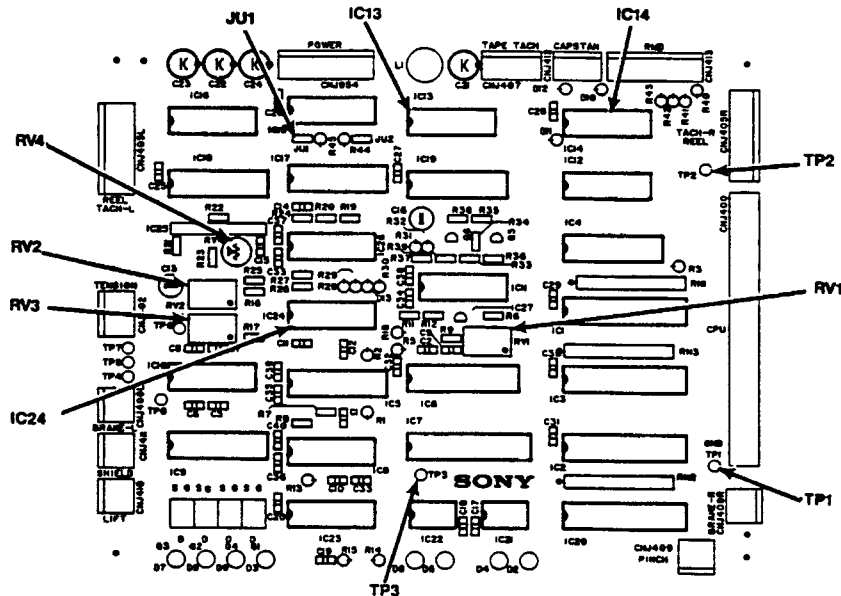

Figure 6-21. TIB Board Layout
- STEP 3** Connect the negative probe of the DVM to TP1 on the TIB board. (Refer to Figure 6-21)
- STEP 4** Connect the positive probe to TP3 on the TIB board. (Refer to Figure 6-21)
STEP 6 Turn the APR-5000 power switch OFF and disconnect the blue jumper block JU-1 (refer to Figure 6-21) on the TIB board.
STEP 9 Connect the 14 pin DIP Clip to IC24 on the TIB board (Refer to Figure 6-21).
STEP 13 Turn the power switch OFF and replace JU-1 back in its original position (Refer to Figure 6-21).